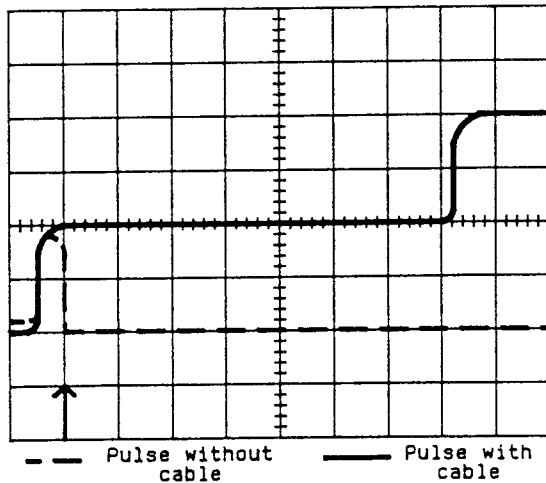

Fig. 4-4a Distance Cal - Std
- B. Remove the BNC probe adapter from the front panel CABLE connector. Adjust the ZERO REF (SET) control to place the *trailing* edge of the pulse on the vertical reference graticule line (the one with the arrow, see Fig. 4-4a).
- C. Attach the three (3) foot precision 50 Ω coaxial cable (Tek part number 012-0482-00) to the front panel CABLE connector.
- D. The *leading* edge of the reflected pulse (second rising edge) should be 6.0 major divisions, ± 1 minor division, from the vertical reference graticule line (Metric - 3.66 divs ± 1 minor div). See Figs. 4-4a and 4-4b.